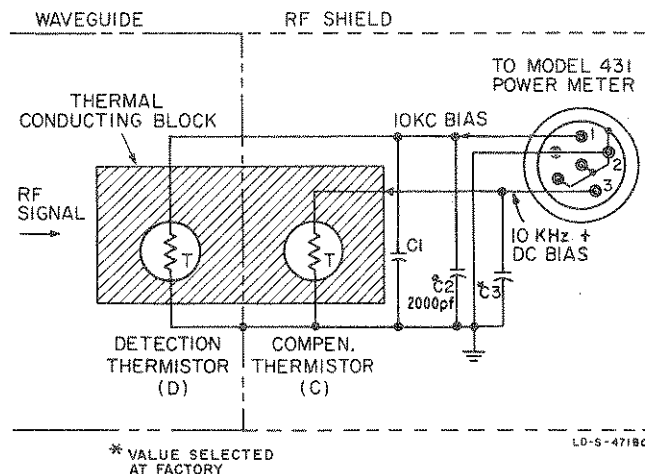

Figure 4. Thermistor Mount Schematic Diagram
45. The matched thermistor pair, C and D (C is used for thermal compensation, and D for RF detection), are mounted in an isolated common thermal environment represented by the shaded rectangle in Figure 4. Electrically, however, the thermistors are isolated from each other, D being mounted inside the waveguide and exposed to incoming RF, while C is entirely shielded from RF. A correct amount of 10-kHz bias is supplied through a cable from the Model 431 Power Meter to heat D to its operating resistance (100 ohms ±1% or 200 ohms ±1%). An equal amount of 10-kHz bias, together with a DC bias, is supplied to heat C to the same operating resistance. As indicated in Figure 4, the total power applied to heat thermistor D consists of incoming RF, 10-kHz bias, and heat from the environment. The total heating power to compensating thermistor C consists of DC bias, 10-kHz bias, and the same environmental heat. As D and C are matched thermally, only equal amounts of heating power can bias them to equal operating resistances. Restating the foregoing algebraically: under normal operation